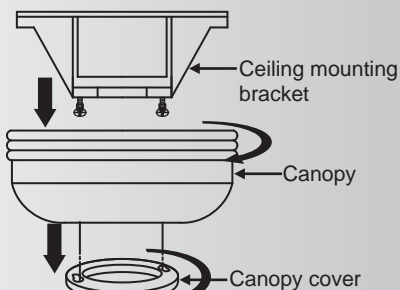

Fig. 5
Step 1. Remove the decorative canopy bottom cover from the canopy by turning the cover counter clockwise. (Fig. 5)
Step 2. Remove the ceiling mounting bracket from the canopy by loosening the two screws on the bottom of the ceiling mounting bracket. Turn the canopy counterclockwise and remove. (Fig. 5)